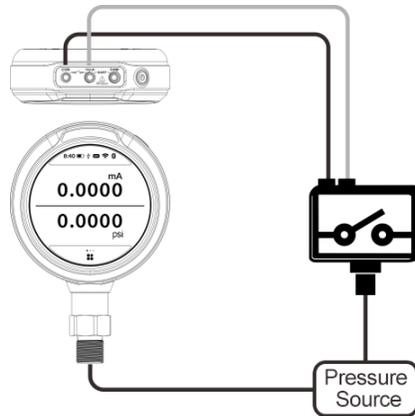

Figure15 Calibrate Pressure Switch
(1) The air and circuit connection between pressure switch and calibrator are shown in Figure 15 (in the Figure it is mechanical switch).